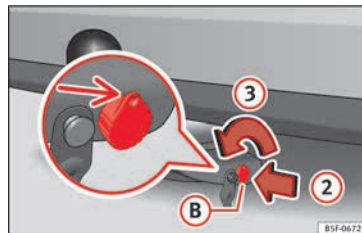

Fig. 228 Releasing the lock
- Insert key ② into the lock in the direction of arrow ② » Fig. 228.
- Turn the key in the direction of arrow ③ until the part of the key with the holes is facing upwards.